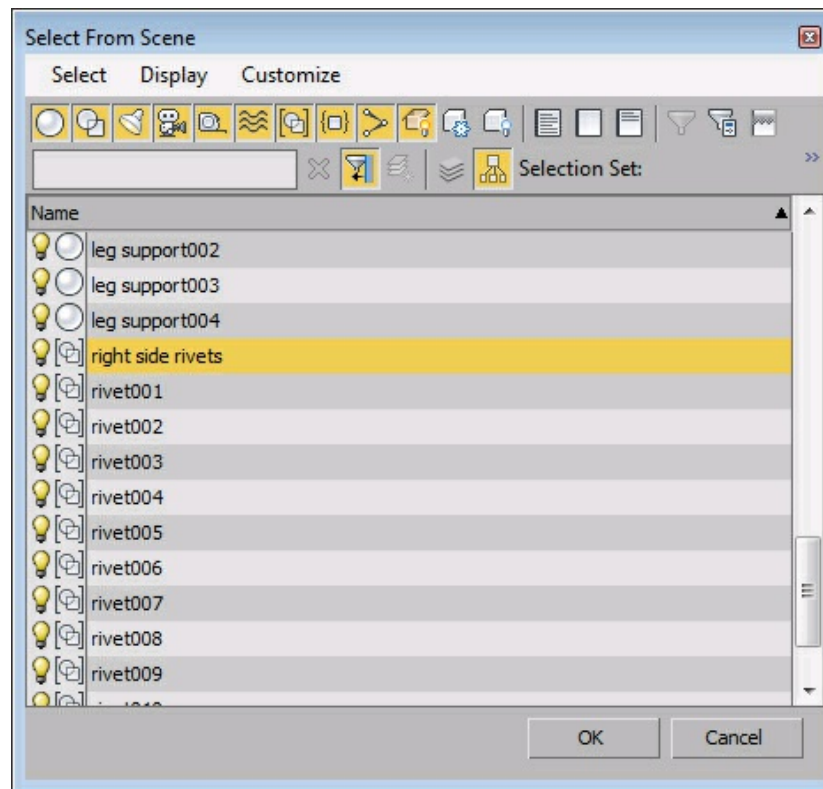

Figure 2-90 The *right side rivets* group selected in the **Select From Scene** dialog box
4. In the **Select From Scene** dialog box, select *right side rivets* and choose the **OK** button, refer to Figure 2-90.